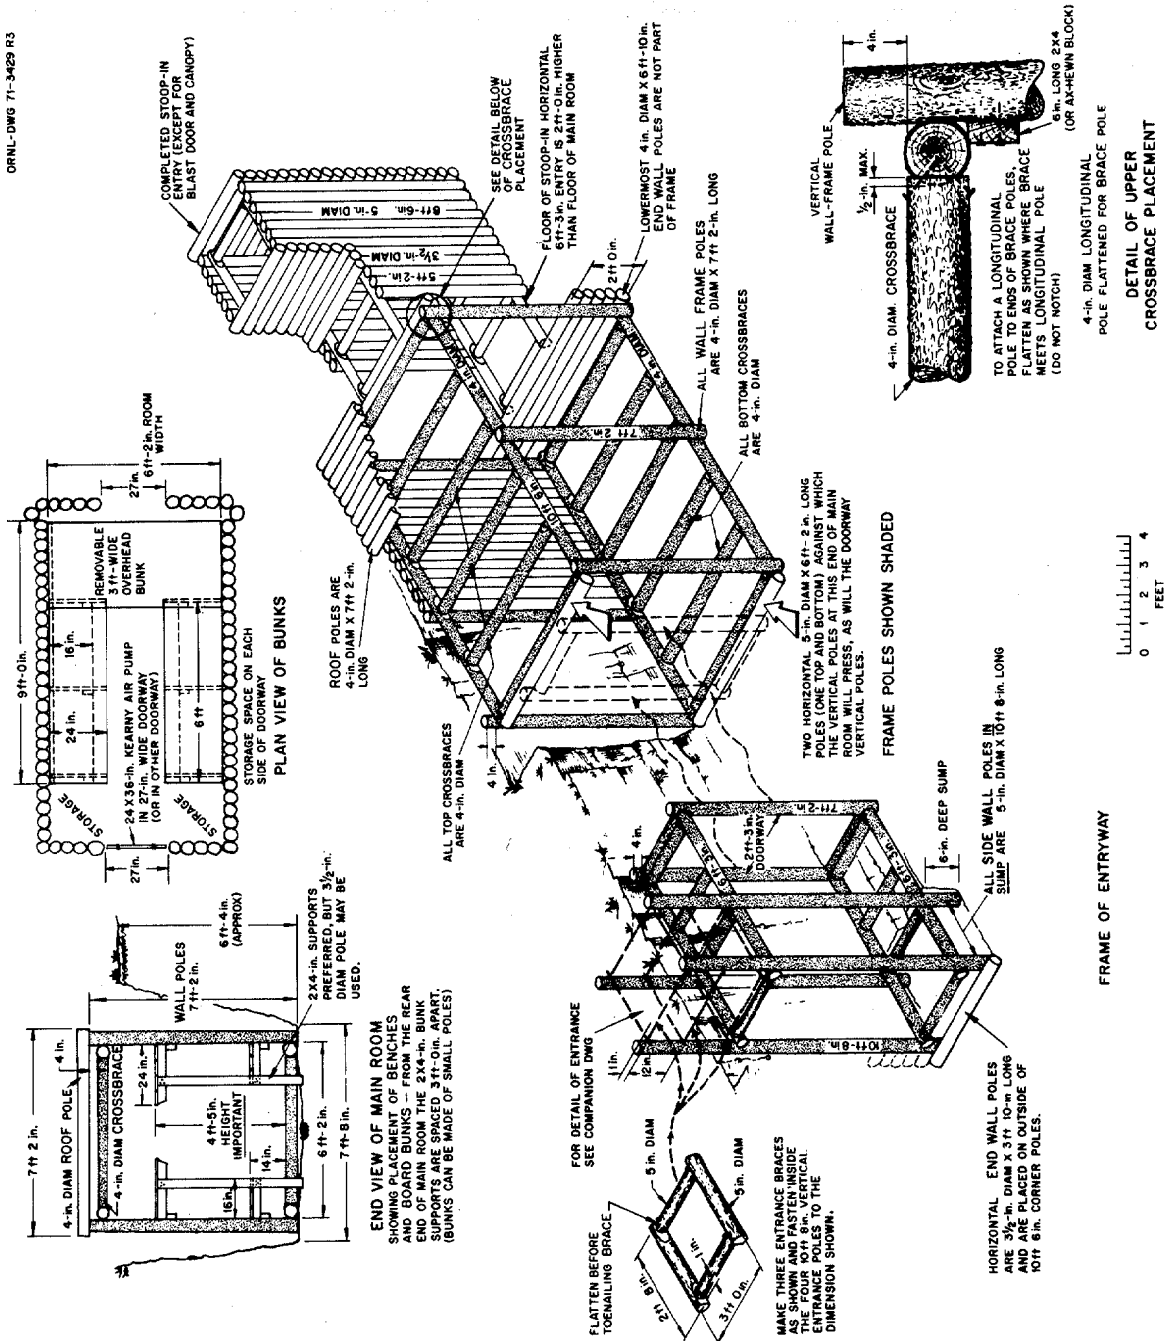

Fig. A.3.2. Pictorial View of Small-Pole Shelter.
19. To support the upper ladder-like horizontal brace, nail blocks to the inner sides of the four vertical wall poles, as shown in the lower right-hand corner of the pictorial view, Fig. A.3.2. If you have large nails, use a block about 3 in. thick and 6 in. long, preferably cut from a green, 4-in.-diameter pole.
30. Build the benches and overhead bunks. If boards are available, use them; if not, use small, straight poles. On each side, build a row of benches and bunks 9 ft long, centered in the shelter. In order to use the shelter space to the greatest advantage, make the heights and widths of the benches and bunks the same as the thoroughly tested heights (14 in. and 4 ft 5 in.) and widths (16 in. and 24 in.) given by Fig. A.3.2. Also be sure to space their vertical supports 3 ft apart—so two adults can sit between each pair of vertical bunk supports.